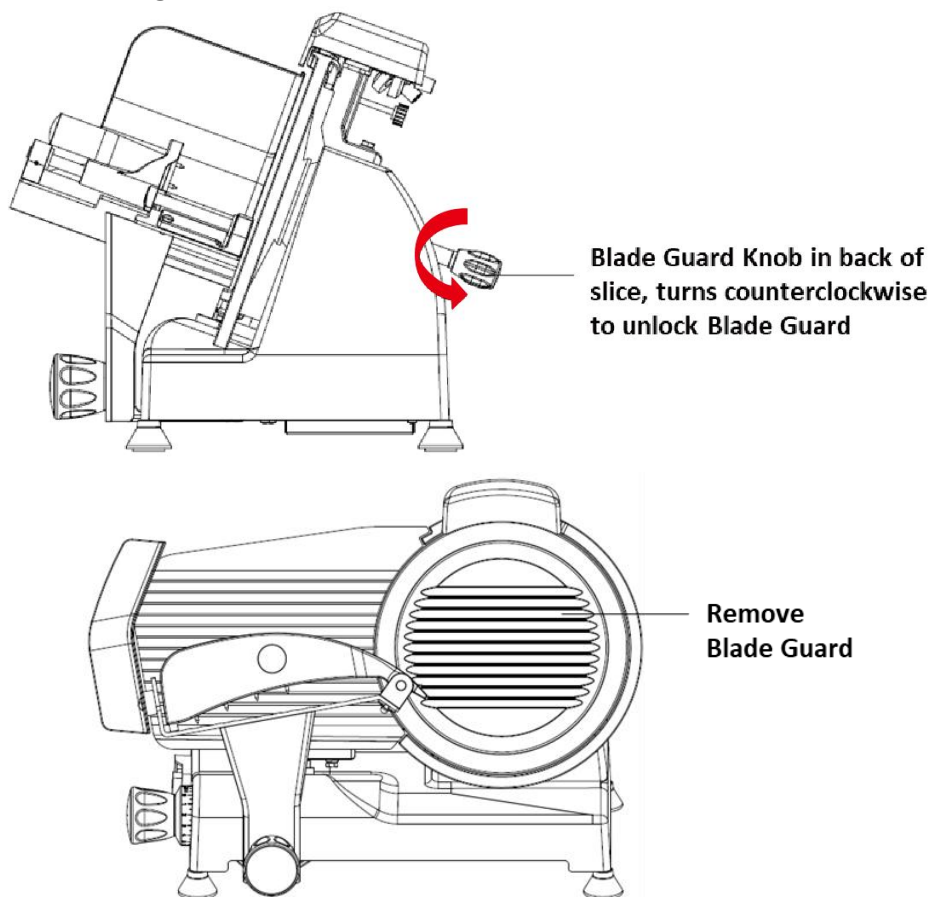

Fig. 3
1. The slicer should be cleaned after every use as perishable food scraps could accumulate on the slicer or behind cutting Blade (Part ⑧).
3. Rotate the Thickness Adjustment Knob (Part ②) to the "O" position.
4. To remove the Sliding Food Carriage (Part ⑤) and Food Pusher Arm (⑫), unscrew the Carriage Knob (④) underneath the Sliding Food Carriage (⑤) counterclockwise and lift the food tray in a slight upward and out motion.
5. With one hand flat on Blade Guard (Part ⑨), turn the black Blade Guard Knob (⑭), located on the back of the slicer behind blade) counterclockwise until the Blade Guard (⑨) is released. (Refer to Fig. 3)
6. Remove the three Phillips head screws that hold Blade (Part ⑧). (Refer to Fig. 3) The Blade is now released from shaft and can be removed by gently pulling outward. **USE EXTREME CAUTION: We highly recommend wearing cut-resistant gloves when removing, cleaning and re-installing the blade.**